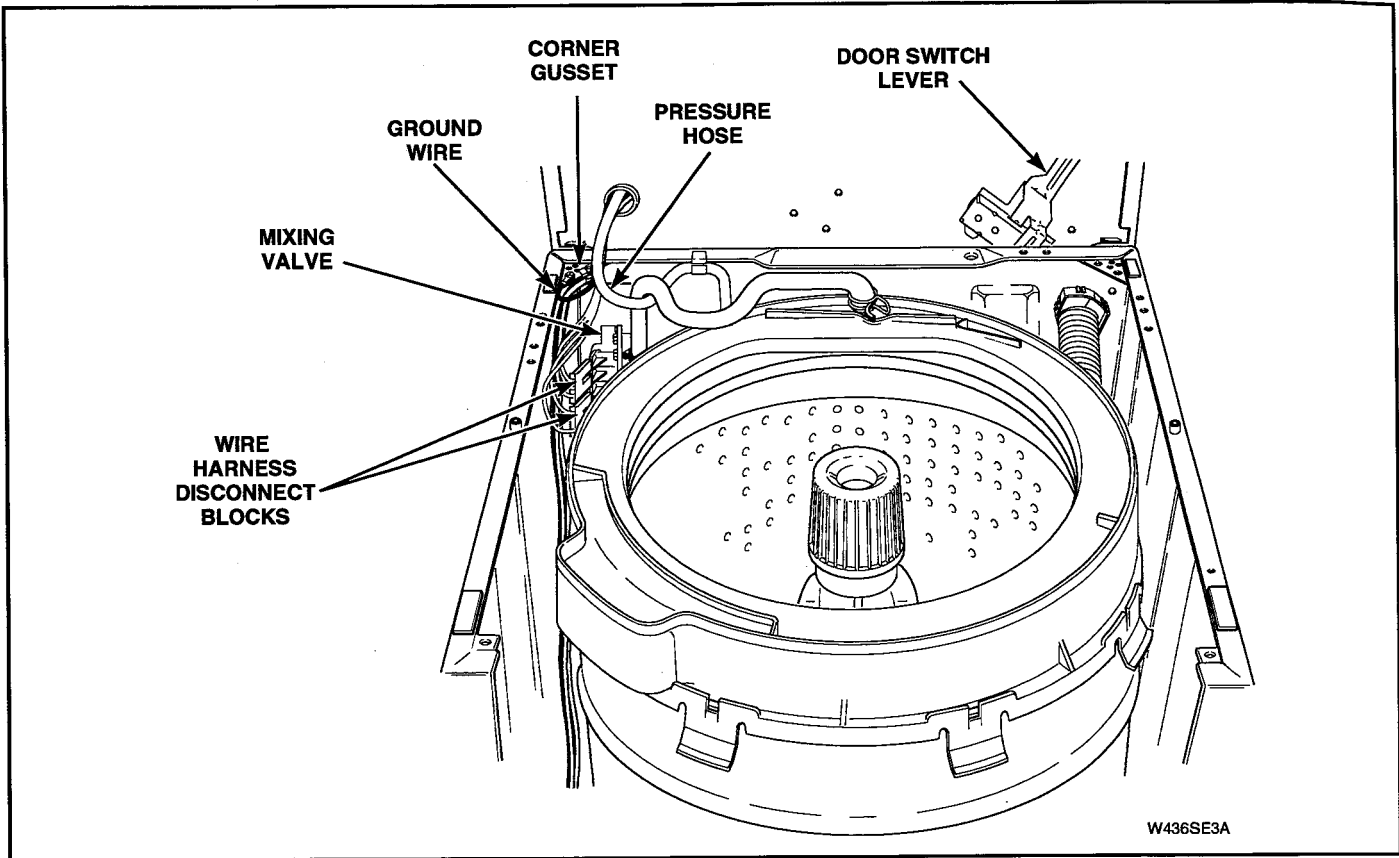

Figure 5-23
- Pull top forward far enough to permit disconnecting ground wires from top left rear corner gusset of washer cabinet. See Figure 5-23.
- Disconnect wires from mixing valve solenoids at quick disconnect blocks. See Figure 5-23.